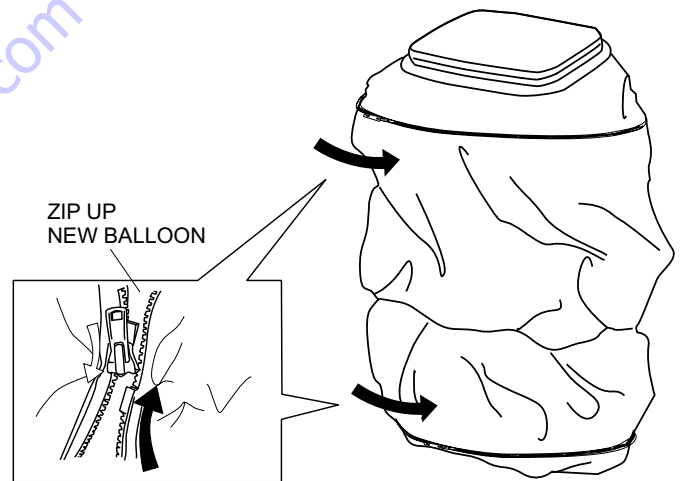

Figure 30. Zipping Up New Balloon
4. Zip up the top and bottom of the new balloon. See Figure 30.